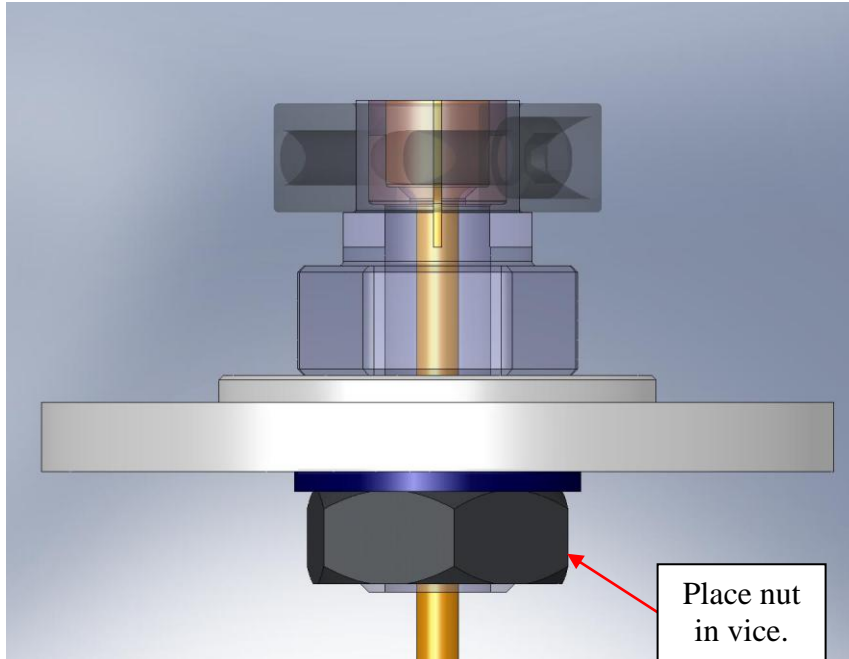

Figure 3.9. Seat the Flexure within the Flexure Mount, then apply a small amount of clamping force from the shaft collar.
- Hold the jam nut tightly (e.g., using a vice), in the orientation shown in Figure 3.9. Push the head of the **Flexure** into the **Flexure Mount**, until the **Flexure** and **Flexure Cups** are all fully seated. Partially tighten the shaft collar screws.